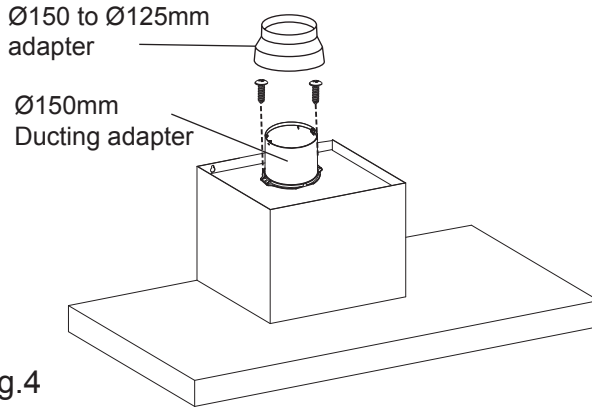

Fig.4
- Connect Ø150mm ducting adapter to the blower outlet and use screws ST 4x12mm to fix it to the range hood (Fig. 4).
- If necessary, connect the Ø150 to Ø125mm adapter to the Ø150mm ducting adapter (Fig. 4).